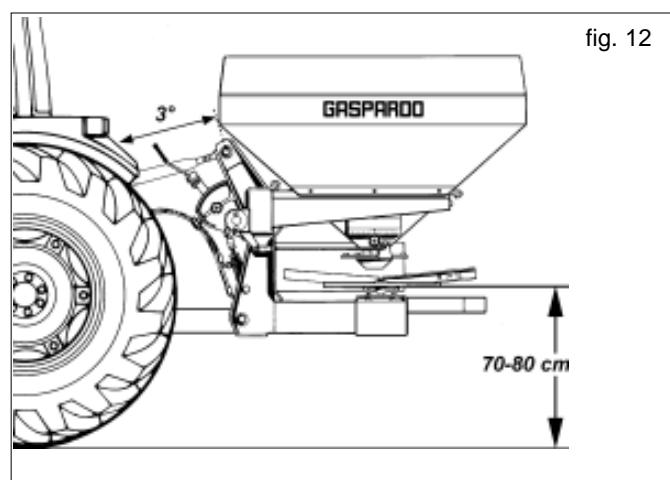

fig. 12
- 6) Adjust the 3-point lifting mechanism of the tractor so that the working position of the spreader is horizontal (70-80 cm above the ground) see Fig.12.